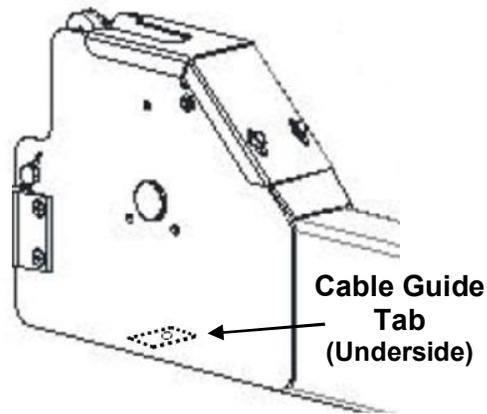

Fig. 6
- 5) Remove cable guide tabs from the underside of each end of Crossbeam, using a hex head screwdriver, **Fig. 6**. Set Cable Guide Tabs & hardware aside for reassembly in the following steps.